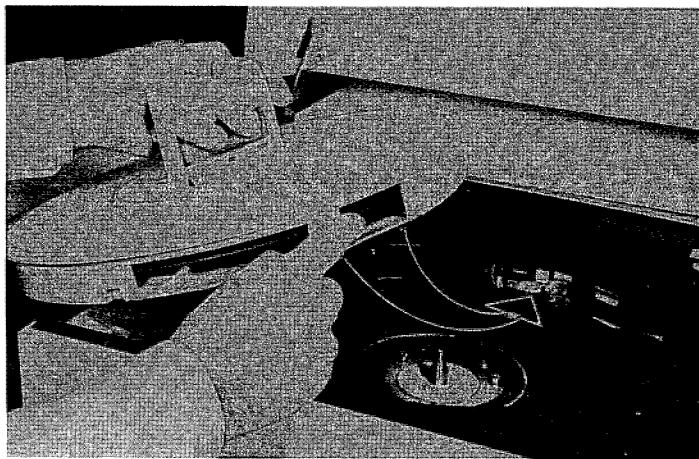

Figure 2-10. Aligning a Cartridge in the Cartridge Bowl
- Step 4 Place the disk cartridge over the spindle hub in the cartridge bowl. Position the cartridge so that the cartridge opening for the head entry is located at the rear of the cartridge bowl (Figure 2-10).